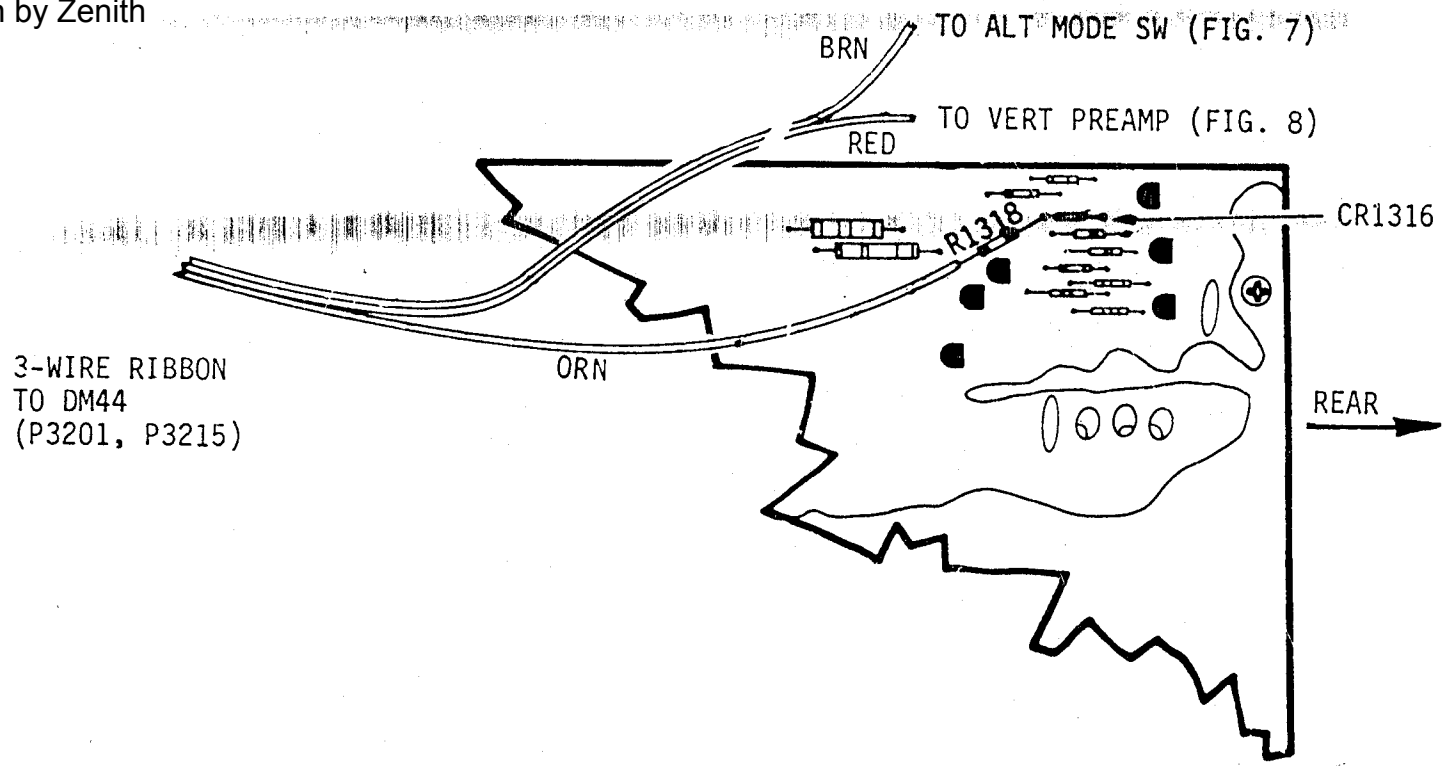

Fig. 5. Partial - Trig Gen & Swp Logic Circuit Board.
- () 2. As shown in Fig. 5, solder R1318 between the front end of CR1316 and the bare end of the orange wire in the three-wire ribbon cable from the kit.